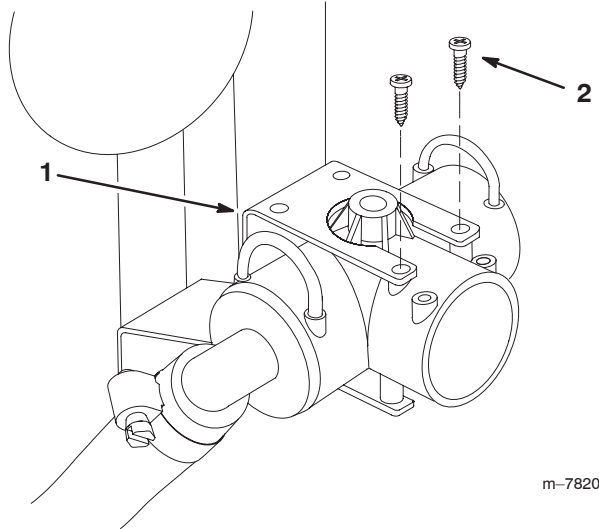

Figure 4
3. Remove the two bolts securing the supply tee to the mounting bracket (Fig. 4). Remove the supply tee and hoses.